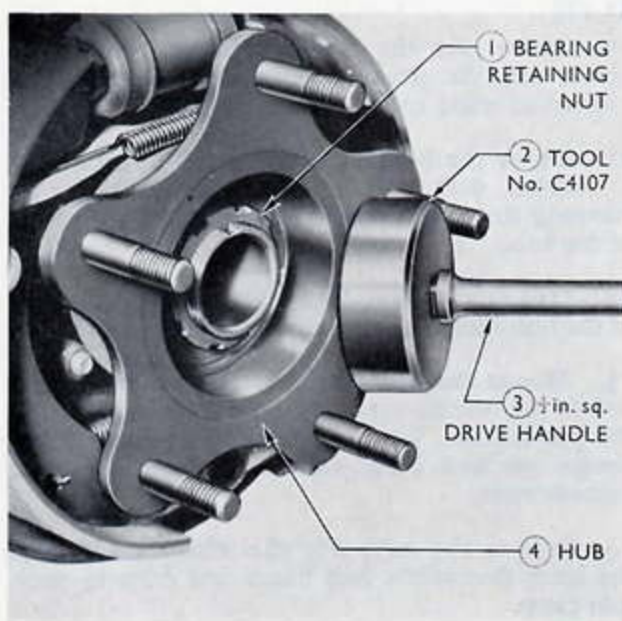

Fig. 6
5. Bend up the tab washer and remove the hub bearing nut, using Tool No. C.4107 and a $\frac{1}{2}$ in. square drive handle (see Fig. 6).